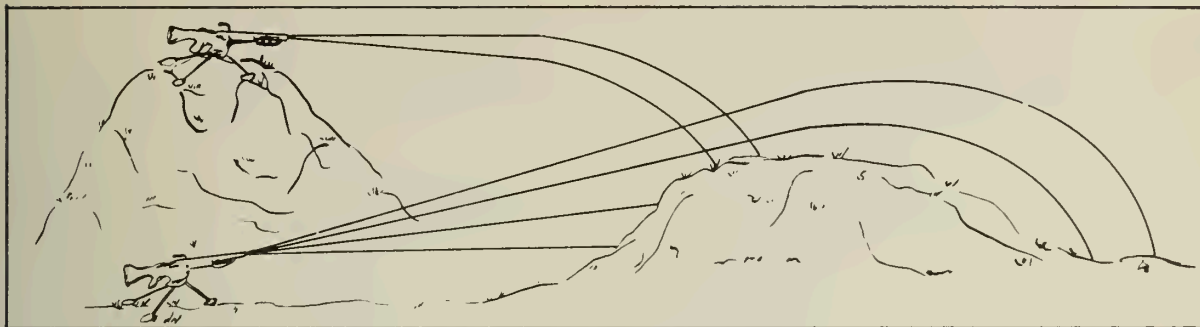

Figure 106. --Plunging Fire.
(2) Plunging Fire. --Plunging fire is fire in which the danger space is practically confined to the beaten zone. Plunging fire is obtained when firing from high ground to low ground, when firing into abruptly rising ground, and when firing at long ranges. (See fig. 106.)